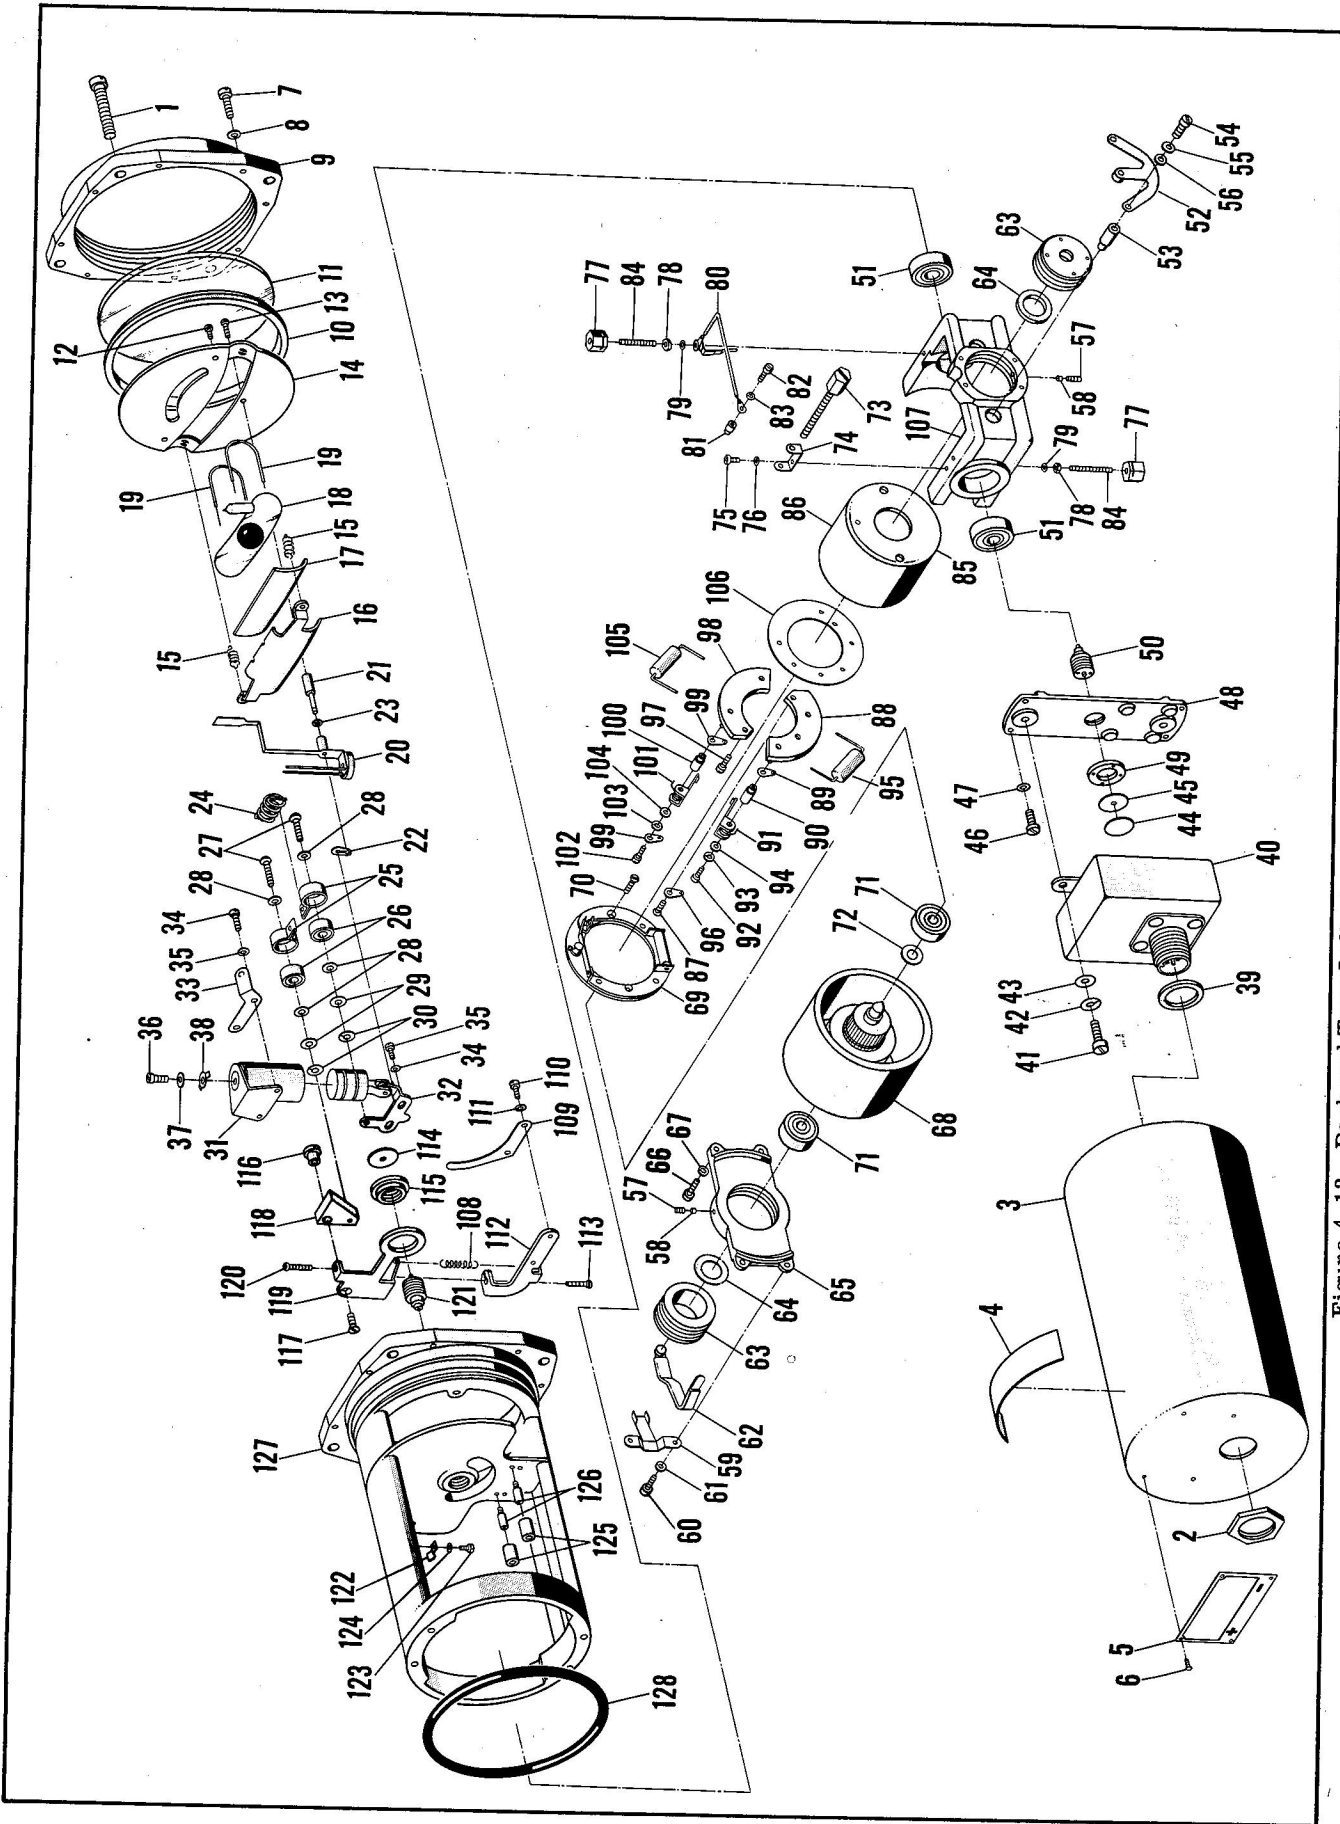
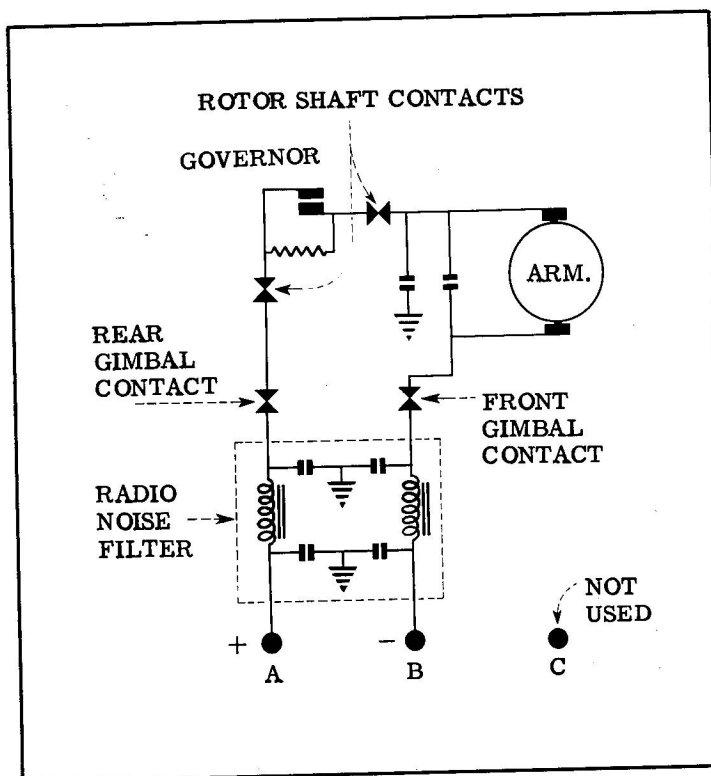

Figure 4-13. Bank and Turn Indicator Assembly, Model B4B-D
Figure 4-14. Wiring Diagram, Model B4B-D
DISASSEMBLY. (See figure 4-13.) Same as Model B4 except that filter assembly (40) replaces individual radio noise filtering components used on Model B4, and insulation (44) is used between insulating washer (45) and the filter assembly. The negative side of the electrical circuit is insulated throughout with insulation (81), and (114), and pivots (90), and (100). Condenser (105) is used between negative brush arm assembly (101) and ground. See figure 4-14 for wiring diagram.
KEY FOR FIGURE 4-13